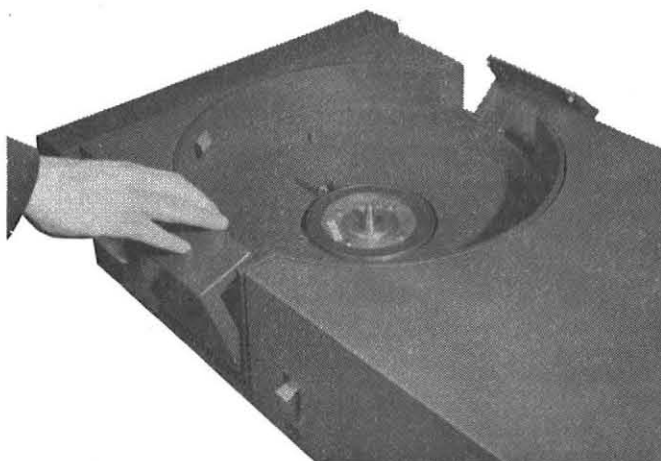

Fig. 2-2
2.2 LOADING (figures 2-2, 2-3 and 2-4)